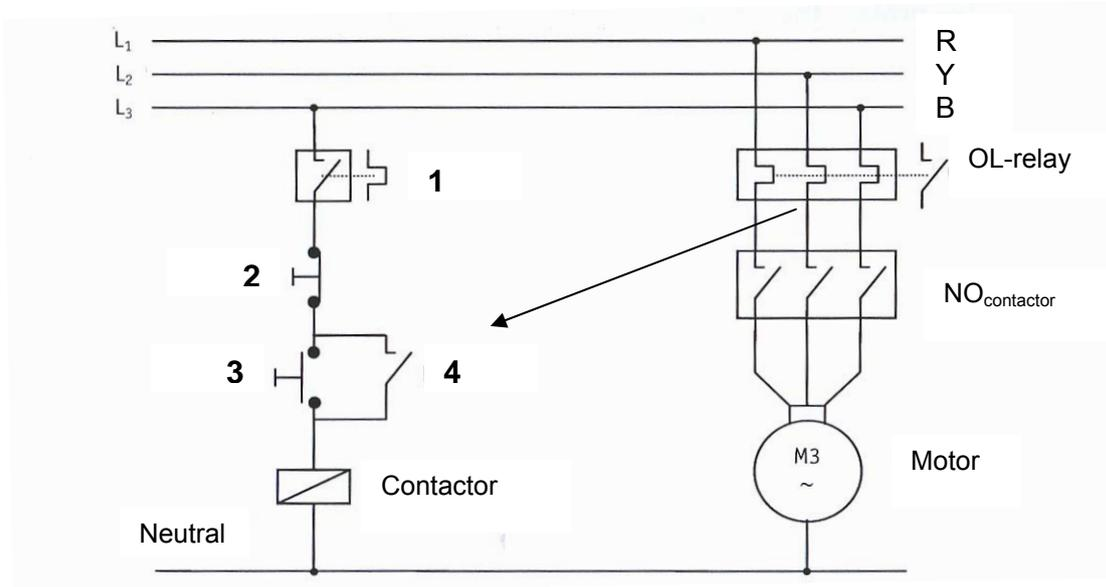

FIGURE 10.2: DIRECT-ON-LINE MOTOR STARTER
10.5 FIGURE 10.2 below shows both the main circuit and control circuit of a three-phase direct-on-line motor starter.